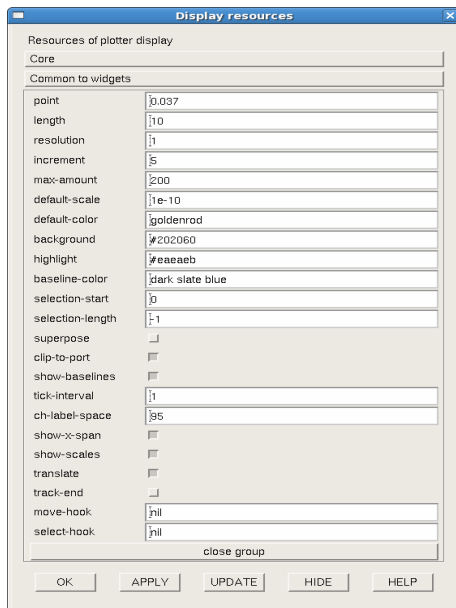

Figure 55: Graph display resources.
- Select the **Resources** button on the right side of the main display to access the parameters controlling the display appearance (Figure 55).